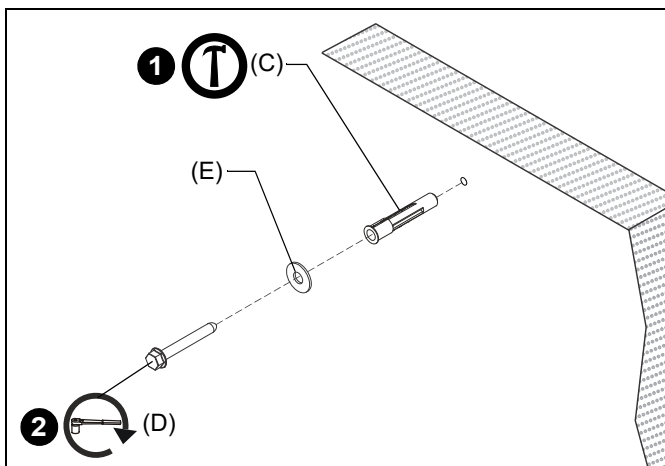

Figure 23
1. Install one UX10X60R anchor (C) into each pilot hole using a hammer, making sure that the anchor is flush with the wall. (See Figure 23)
2. Use one 5/16" x 2-1/2" hex flange head lag bolt (D) and one 5/16" washer (E) through product into each anchor in wall. (See Figure 23)